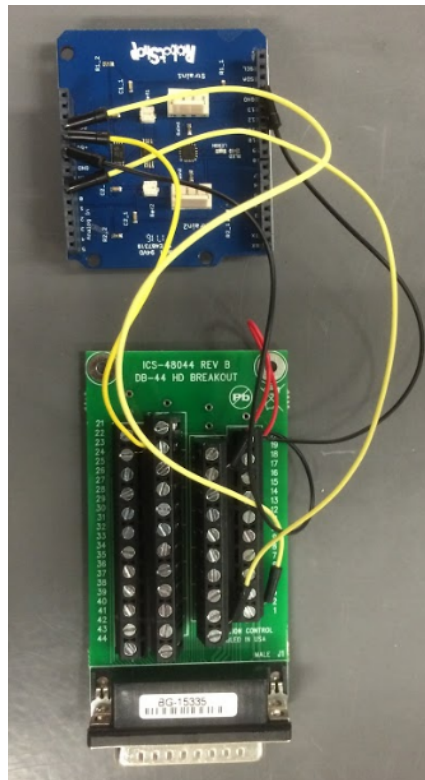

Figure 16. Closeup of Amplifier (Top) to 44-Pin Adapter (Bottom) connections
1. Connect the following terminals from the Amplifier terminals to the corresponding terminals on the 44-Pin Adapter as detailed in the table below. The connections will be made using the Jumper Wires. These wires come pre-stripped and the colors do not matter. Simply insert the stripped end into the desired terminal (Figure 16). *Note; 2 grounds will be utilized on the amplifier chip. It is important that one ground terminal (GND) is on the right-hand side and the other is on the left-hand side (see Figure 16).*